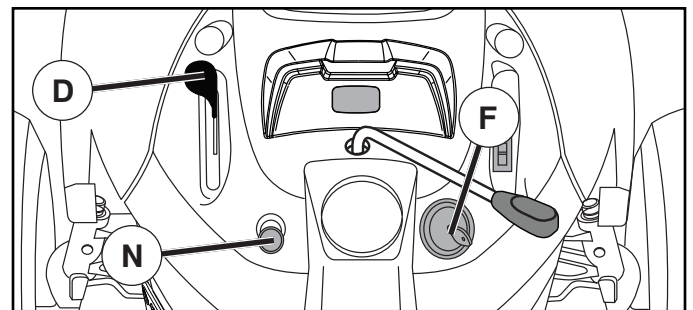

Fig. 6
- Turn ignition key (F) to "STOP" position and remove key. Always remove key when leaving tractor to prevent unauthorized use.
### TO USE THROTTLE CONTROL (D) (See Fig. 6)
### TO USE CHOKE CONTROL (N) (See Fig. 6)